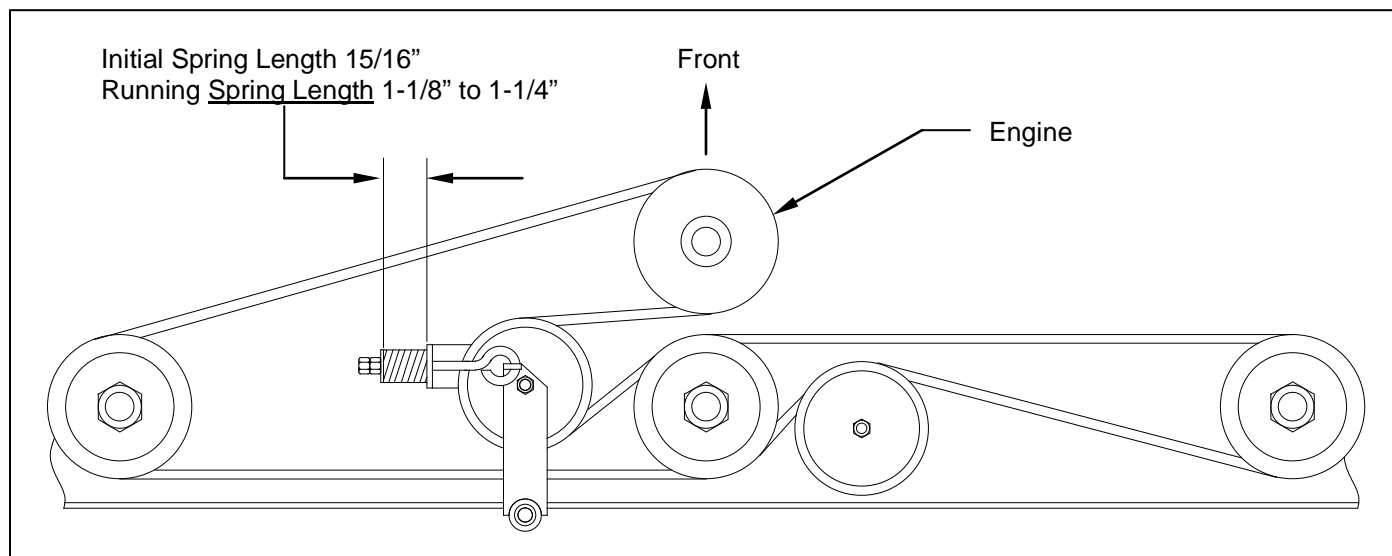

Figure 8: Belt Pattern and Spring Adjustment (Model H60B)
**Model H60B: – See Figure 8.**